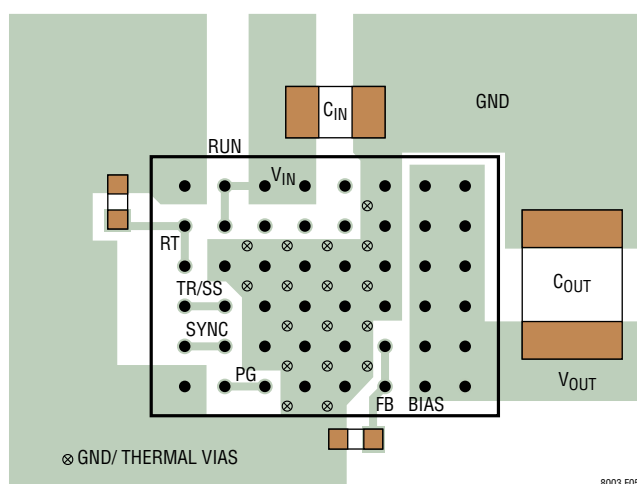

Figure 5. Layout Showing Suggested External Components, GND Plane and Thermal Vias
Most of the headaches associated with PCB layout have been alleviated or even eliminated by the high level of integration of the LTM8003. The LTM8003 is nevertheless a switching power supply, and care must be taken to minimize EMI and ensure proper operation. Even with the high level of integration, you may fail to achieve specified operation with a haphazard or poor layout. See Figure 5 for a suggested layout. Ensure that the grounding and heat sinking are acceptable.
6. Use vias to connect the GND copper area to the board's internal ground planes. Liberally distribute these GND vias to provide both a good ground connection and thermal path to the internal planes of the printed circuit board. Pay attention to the location and density of the thermal vias in Figure 5. The LTM8003 can benefit from the heat-sinking afforded by vias that connect to internal GND planes at these locations, due to their proximity to internal power handling components. The optimum